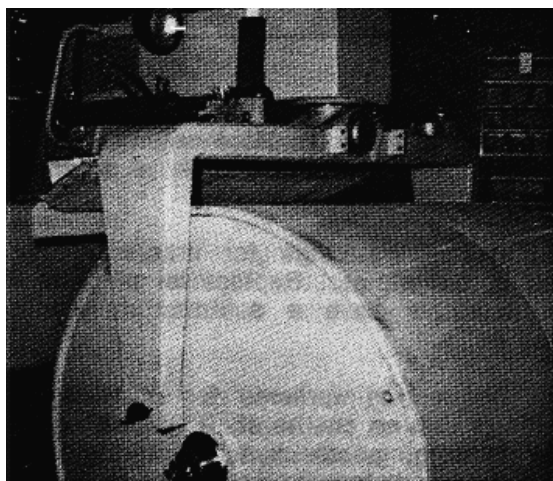

FIGURE 9-99.
c. Lift the gooseneck up until the guide roll shaft will clear the steering yoke. Carefully roll the guide roll ahead. Block up the front of unit frame (see figure 9-99).